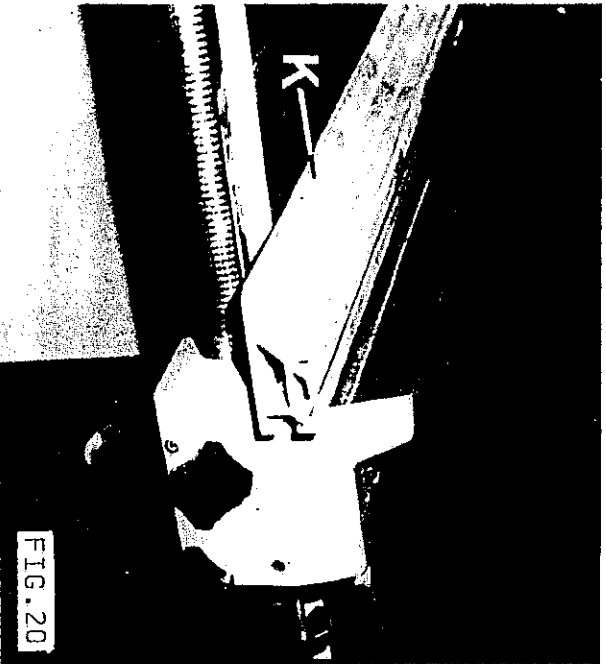

FIG. 20
- 2) Slide fence plate over the two locking plates to position shown in FIG.20, then relock handwheels 'L'.